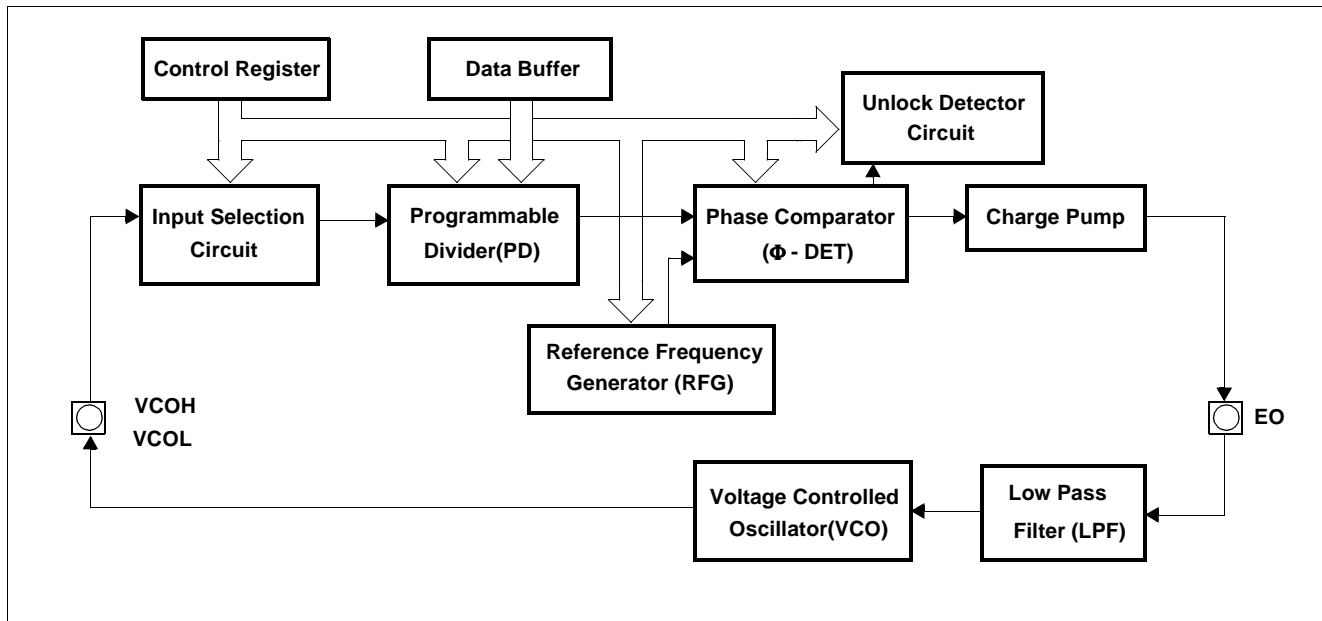

Figure 4-35 PLL Frequency Synthesizer Block Diagram
Figure 4-35 shows the PLL frequency synthesizer block diagram.
As shown in Figure 4-35, the PLL frequency synthesizer consists of an input selection circuit, programmable divider (PD), phase comparator (Phase-DET) and reference frequency generator (RFG). These blocks are connected to charge pump, an external low-pass filter (LPF) and voltage controlled oscillator (VCO). The PLL frequency synthesizer also has an internal CMOS operational amplifier so that it can be used as an external low-pass filter amplifier.